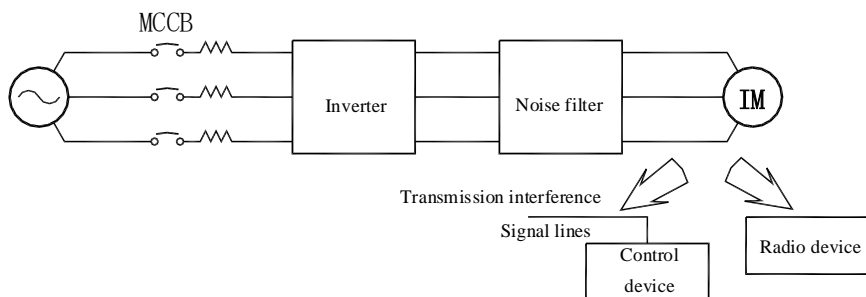

Fig.3-7 Noise Filter Installation on Output Side
- The noise filter installation on the output side is shown in Fig. 3-7.